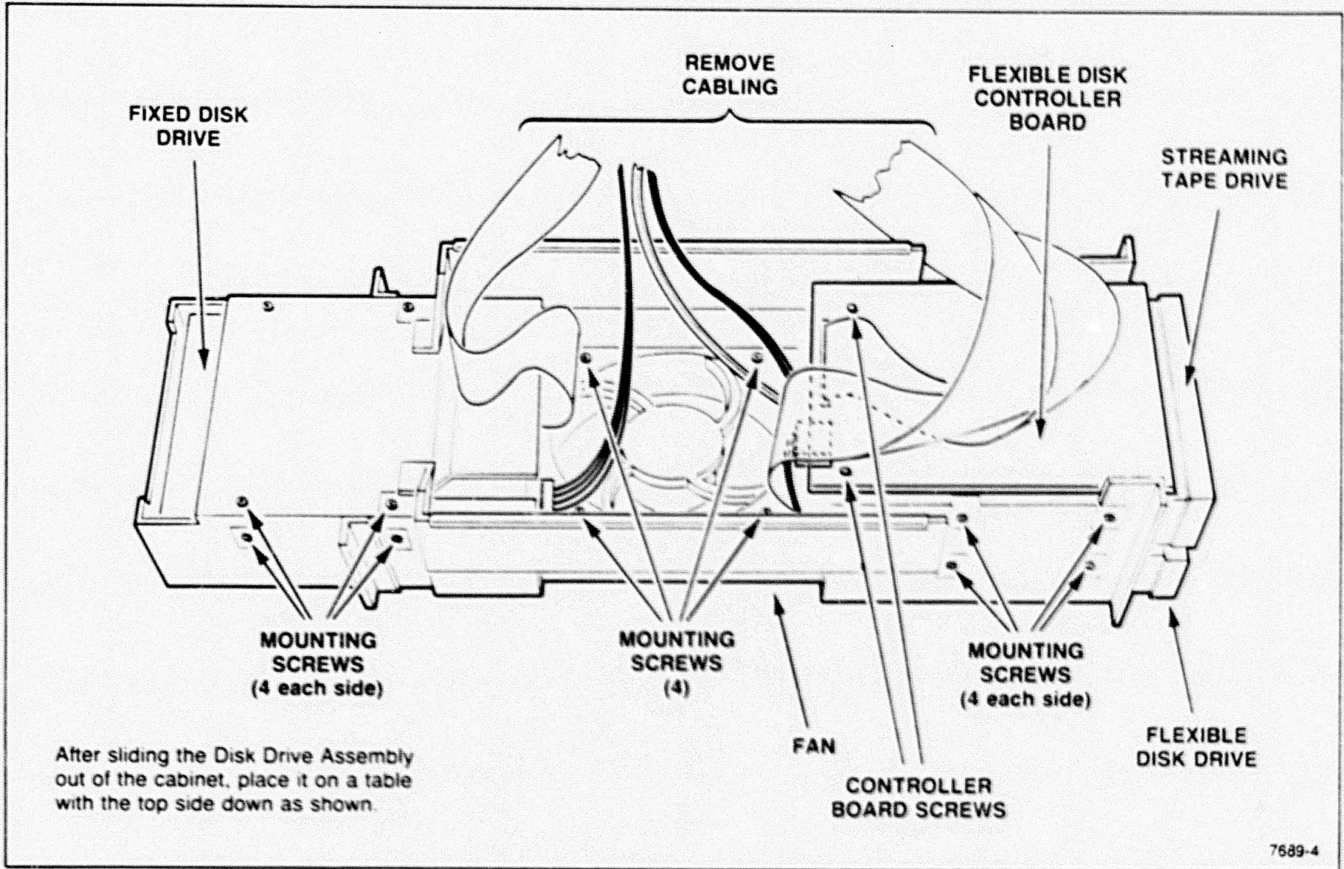

Figure 6. Magnetic Peripheral Subassemblies.
8. To remove the currently installed hard disk from the subassembly, turn the subassembly over and remove the eight appropriate holding screws, two on each side of the housing and four on the bottom; see **Figure 6**.
Refer to **Figure 6** when performing this procedure.
4. Attach the insulator for the flexible disk controller board (342-0877-xx) to the subassembly. See **Figure 6** for the flexible disk drive location.
Refer to **Figure 6** and **Figure 7** when performing this procedure.
- B. Position the second 600-Mbyte hard disk drive (119-3607-xx) in the appropriate chamber and secure with eight screws (211-0722-xx); see **Figure 6**.